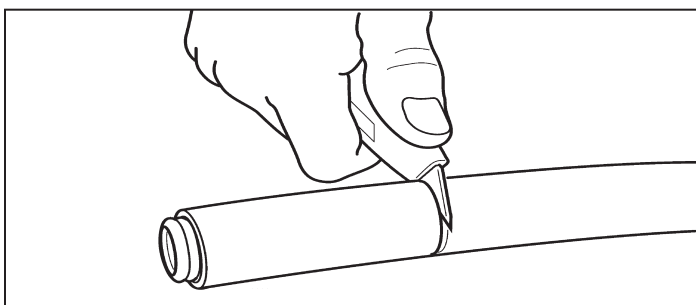

Figure: 4-55
- Finish cutting through the sleeve down to the stainless corrugated pipe using a sharp utility knife (Figure 4-55).